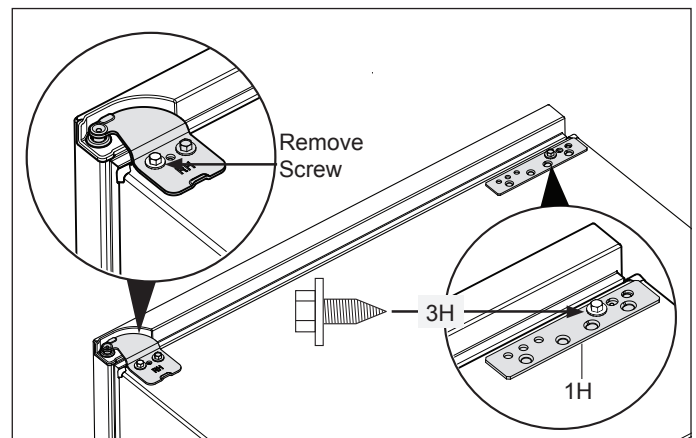

Figure 4
4. Remove outer screw from top hinge using a $\frac{3}{8}$ " socket driver or wrench and save for later. Install mounting bracket with one screw mounted to inside hole using a $\frac{3}{8}$ " socket. (See Figure 4.)